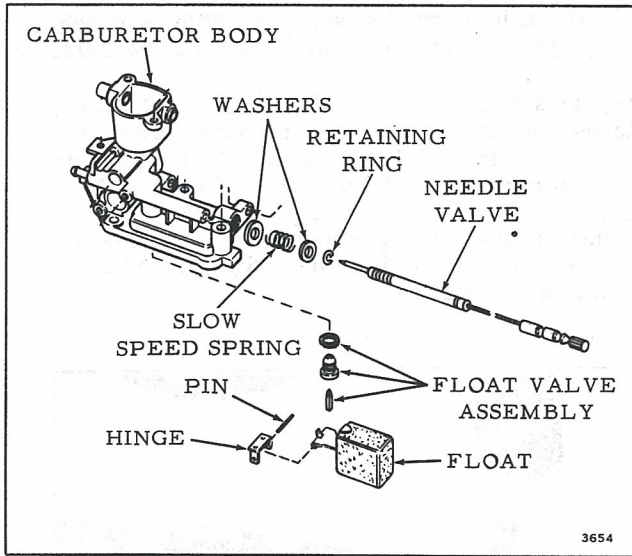

Figure 3-7. Carburetor Assembly View
c. Remove hinge pin, float, and float valve, and unscrew valve seat and gasket. See Figure 3-7.
Install spring and washers on low speed needle, in the sequence shown in Figure 3-7. Install the low-speed needle, turning clockwise until needle seats gently. Do not force. Back it off 3/4 turn.